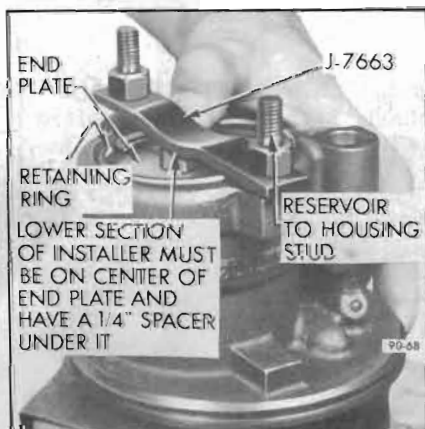

Figure 90-68—Installing Housing End Plate
13. Place end plate retaining ring on top of end plate. Lay a 1/4" spacer on center of end plate, then position Installer J-7663 on end plate so that the depression on it is against the spacer. See Figure 90-68. Attach installer to housing studs with long end of studs threading in housing. Press end plate down by tightening studs until ring groove in housing is evenly exposed. Install retaining ring. Be sure ring is completely seated in housing groove and end plate is aligned properly. Remove studs.